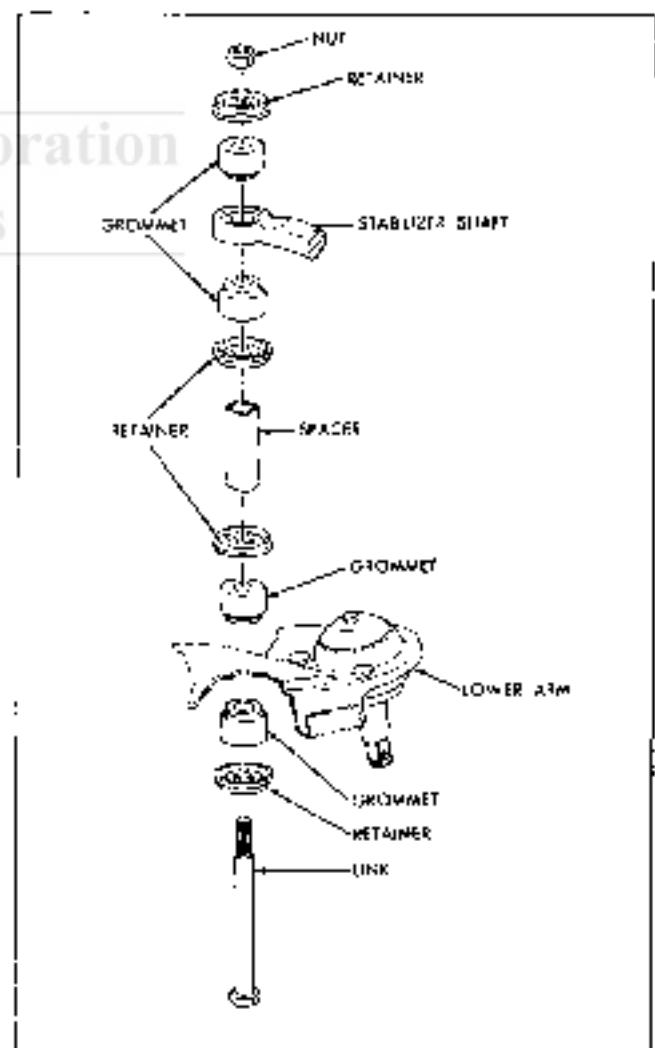

Fig. 3-8 Exploded View of Stabilizer Link
2. Install link assembly as shown in Fig. 3-8. Tighten nut 15 lb. ft. torque (Pontiac and Tempest) 80 lb. in. torque (Firebird).